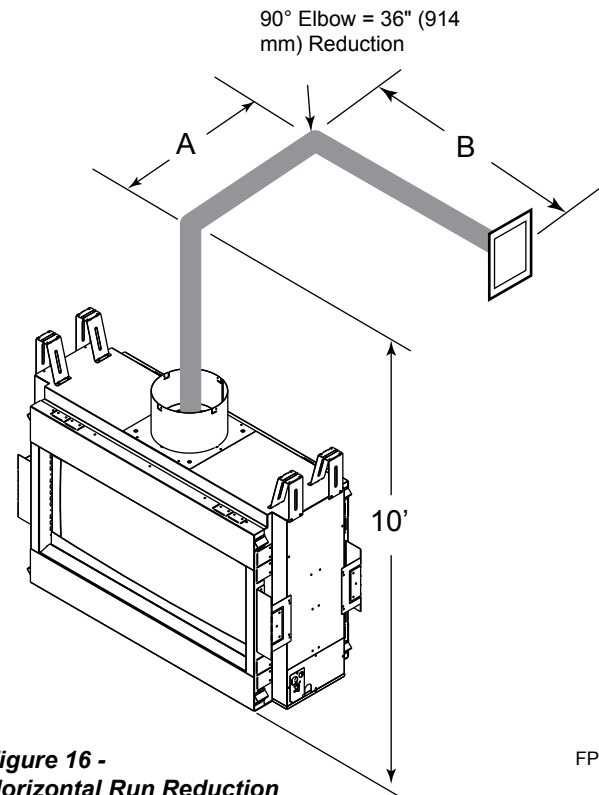

Figure 16 - Horizontal Run Reduction
- If a 90° elbow is used in the horizontal vent run (level height maintained) the horizontal vent length is reduced by 36" (914 mm). *Figures 16 and 17*. This does not apply if the 90° elbows are used to increase or redirect a vertical rise.
In *Figures 16 and 17* dimension A plus B must not be greater than 17' (5.2 m).